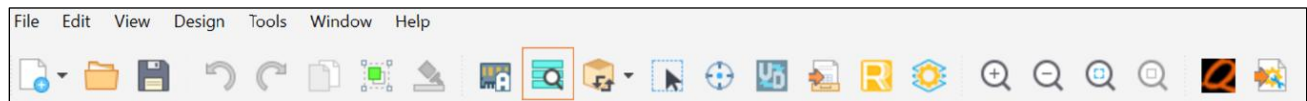

Figure 5.5. Validate Design in Lattice Propel Builder
- To validate the design, go to **Design > Validate Design** or click the **Validate Design** icon (as shown in Figure 5.5). Ensure the TCL console shows no error, and only the expected INFO messages and WARNINGS appear.